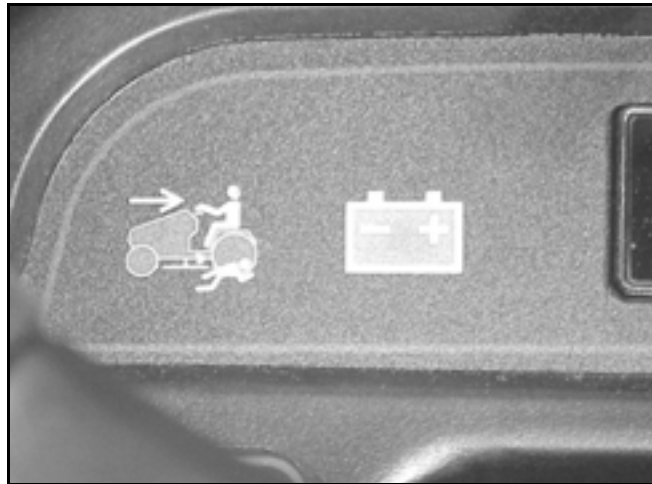

Figure 242
4. The "Key Choice" warning light on the dash should come on (Figure 242).